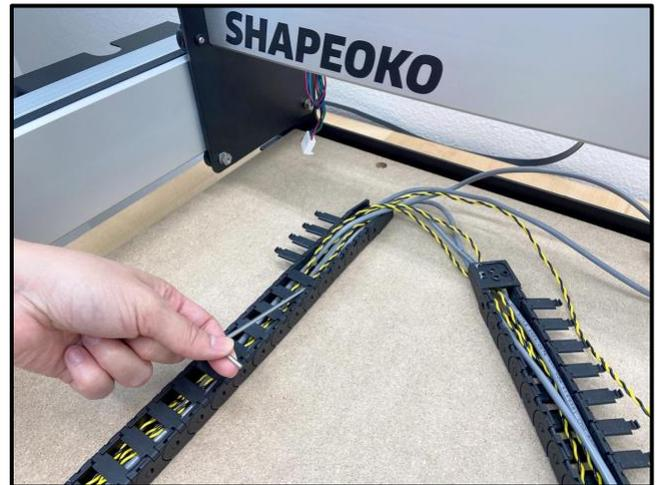
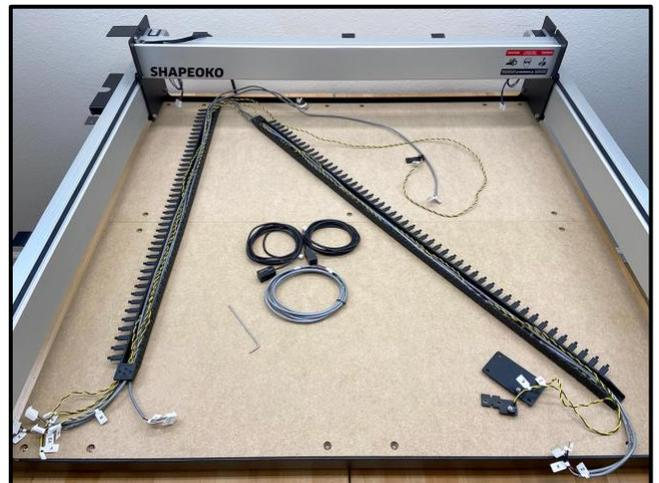

Figure 20
Figure 21
1. Open up the drag chain and remove the homing switch cables. See *Fig. 20* and *Fig. 21*.
- a. Position the drag chain on the baseframe as shown in *Fig. 21*, with the chain's clip-on panels facing up. (Only one side of the chain will open; be sure this side is facing up.)
- b. Use a hex key or screw driver as a lever to pry open one side of each drag chain link. Start from the rear of the machine and work your way forward (as shown in *Fig. 20*).